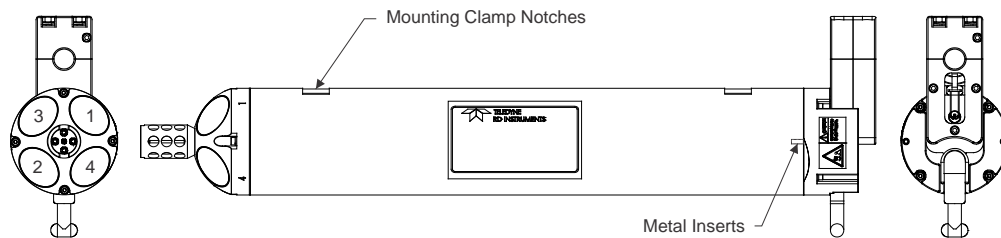

Figure 28. DVS Assembly – 750 Meter
- Gently lower the transducer head/electronic/cables/strain relief wire into the housing, aligning the mating holes and orient the housing so that the mounting clamp notches match Figure 28.
7. Slide the end-cap into the end-cap side of the housing making sure that the acoustic modem is aligned with the cable clamp notches (see Figure 28).